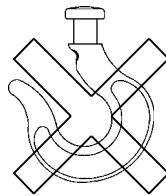

Fig. 6
- Do not remove the safety latch from the top or bottom hooks (Fig. 6).